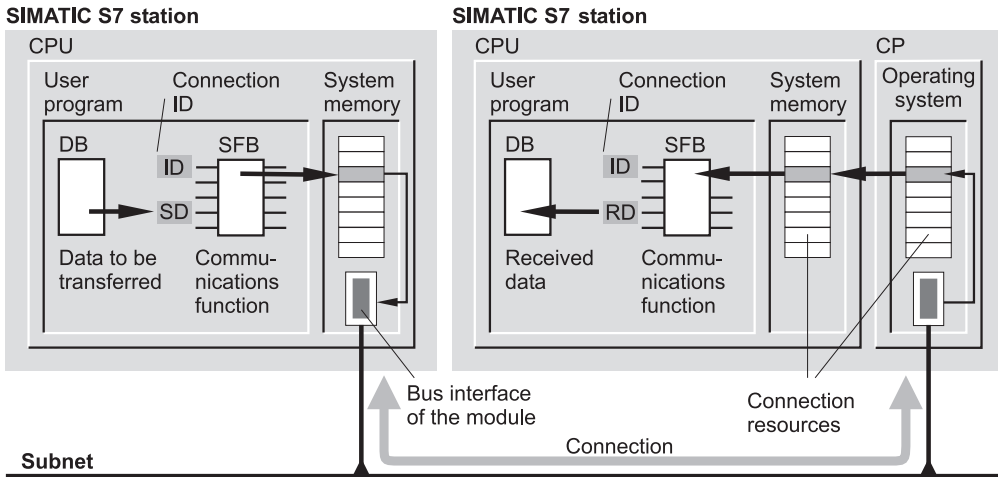

Figure 1.8 Data Exchange Between Two SIMATIC S7 Stations
Using an S7 connection, Figure 1.8 shows the objects involved in communication between two stations. The user program of the left-hand station contains the data to be transmitted in a data block (DB). The communications function in the example is a system function block (SFB). Assign the parameter RD with a pointer to the data to be sent, and trigger the transmission from the program. The communications function is additionally assigned a connection ID with which the used connection is specified. The connection occupies a connection resource in the CPU’s system memory. The data are transmitted e.g. to a CP module in another station via the module’s bus interface. Connection resources are used in both the CP module and CPU. Because of the connection ID (and the configured connection path) the communications function in the receiver station “recognizes” the data addressed to it, and writes them into the data block of the user program by means of the pointer in parameter RD.